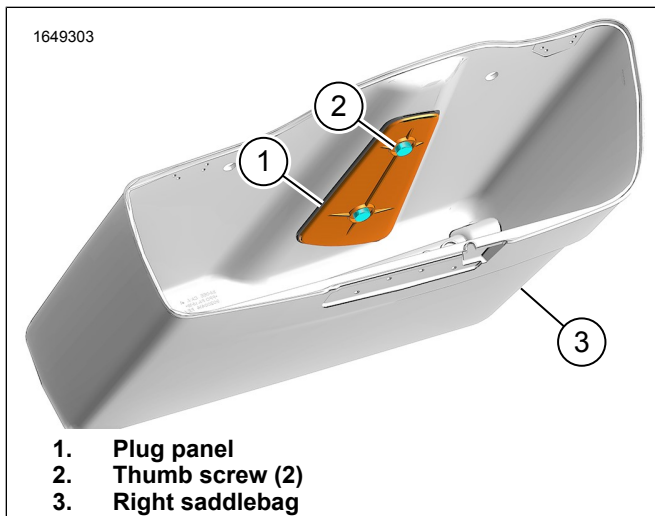

Figure 21. Plug Panel
- See Figure 21. Position plug panel (1) over inner bezel.
- Install thumb screws (2). Tighten.